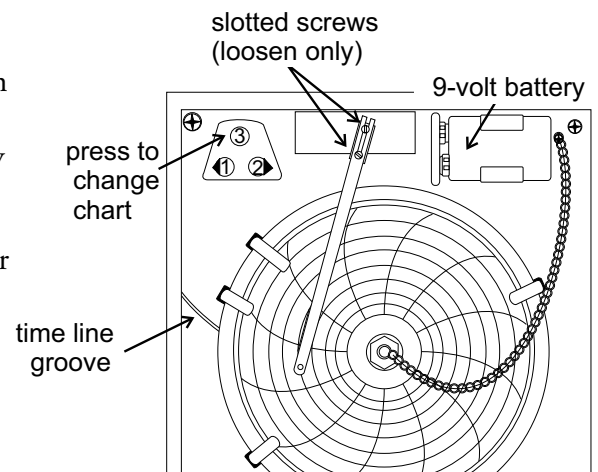

Figure 1-8. Recorder Components
To prepare the recorder for operation, open the glass door and snap the connector onto the 9-volt battery (Figure 1-8).
1. Press the #3 Change Chart button (Figure 1-8) and hold it for 1 second until the pen begins to move to the left of the chart.